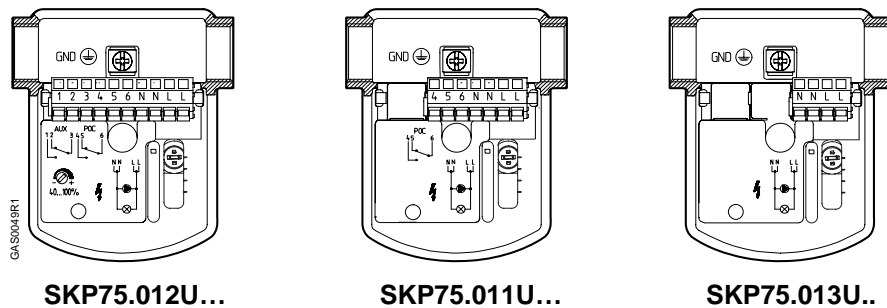

Figure 6. Terminal Designations.
- Adjust the auxiliary switch (if provided) according to the wiring diagram on the label below the terminals (see figure 6). The adjustment screw and scale are located on the right side of the terminal box, and are visible through the transparent portion of the terminal cover.